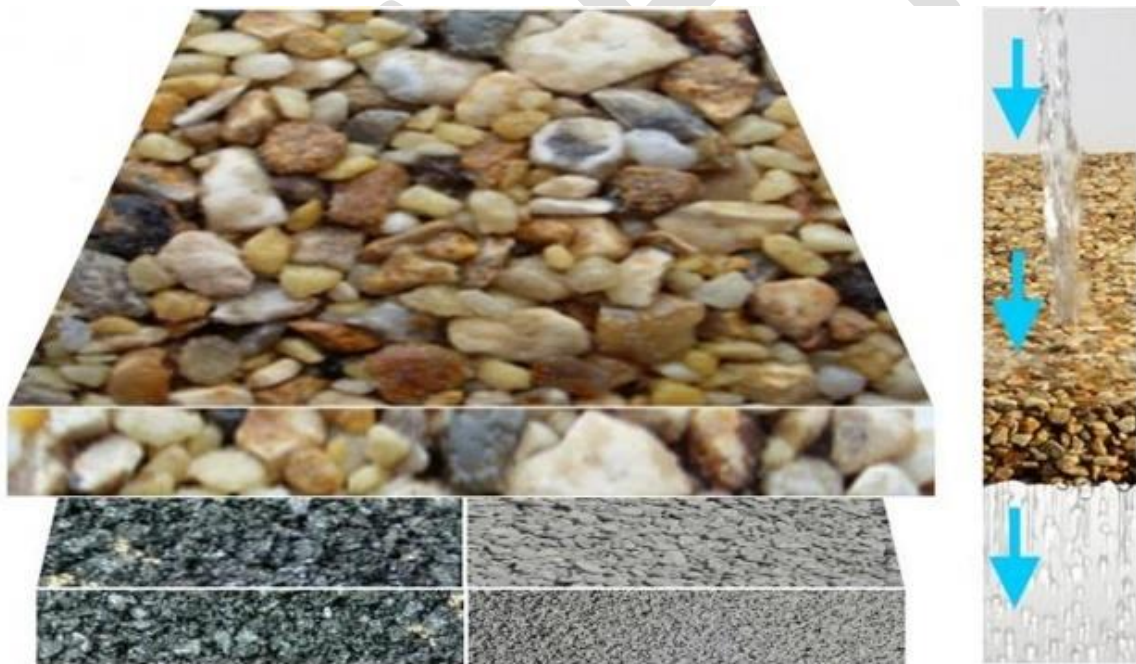

Figure 3: Resin Bound Aggregate (Source: Sureset)
3.8 With this system, a resin bound aggregate is mixed with a clear resin on site so that each particle is completely coated with the resin see **Figure 3** above and **Appendix D**. Once the resin and aggregates are fully mixed they are applied to the base and laid to give a permeable, smooth and durable finish. The finished depth of the bound system usually varies between 12mm and 24mm. The aggregate used would be of a similar colour to the existing car park surface. The resin bound layer would be laid on top of a new porous tarmacadam surface, which may include; 250mm clean stone, 60mm bitumen macadam binder course and 30mm bitumen macadam surface course. This option could cost in the region of £290,000.